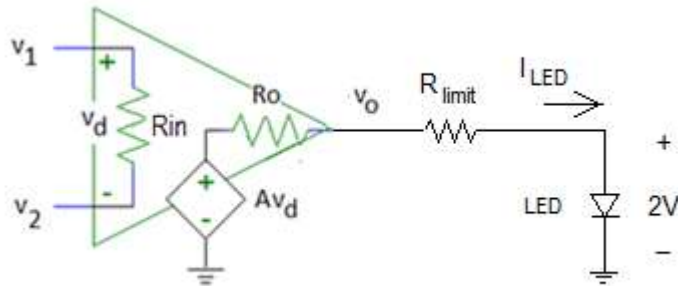

Figure 3: A schematic diagram of ideal op amp in which the output terminal is tied to an LED and current-limiting resistor.
However, we would like to use the output voltage of the op amp to forward bias the LED when the resistance of the CdS photocell has increased to or above a specified value as the light in the room becomes too low. To insure that the current through the LED is not greater than the maximum specified value, a current limiting resistor is included in the circuit (Figure 29 in Section 3.13 or Figure 3 below). Assume that the voltage required to drive current through the forward-biased LED is 2V for a red or green LED. [It will be about 3.5V for a blue LED.] If the output resistance  $R_o$  of the op amp is very small, it can be neglected in the analysis.
4. Calculate the value of  $R_{limit}$  in Figure 3 such that the current through the LED  $I_{LED} = 10$  mA when the output voltage of the op amp  $v_o = 9$  V.